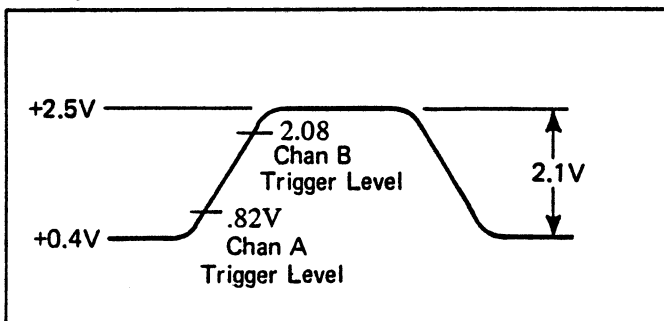

Figure 3.6 - Rise Time Measurement
3.2.9.7.4 Figure 3.6 illustrates a waveform and the voltage levels used for a time interval measurement.